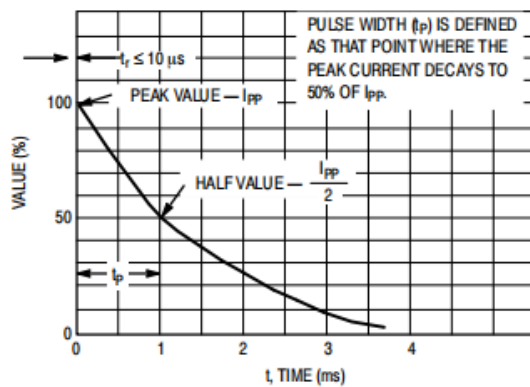
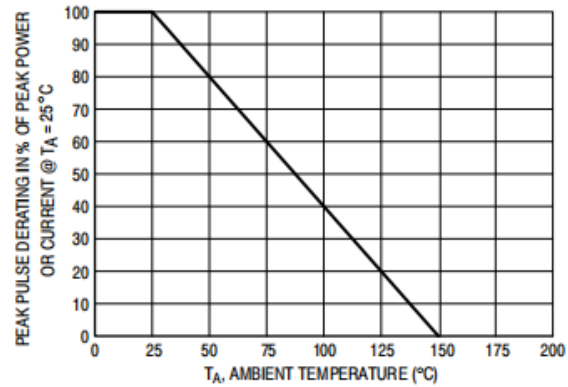

Figure 5. Pulse Waveform
Figure 6. Pulse Derating Curve
- ☐ Peak Power – 24 or 40 Watts @ 1.0 ms (Unidirectional), per Figure 5 Waveform
1. Nonrepetitive current pulse per Figure 5 and derate above $T_A = 25^\circ\text{C}$ per Figure 6.
5. Surge current waveform per Figure 5 and derate per Figure 6
Figure is the recommended solution for transient EMI/ESD protection. This circuit is shown in the Society of Automotive Engineers February, 2000 J2411 “Single Wire CAN Network for Vehicle Applications” specification (Figure 6, page 11). Note: the dual common anode zener configuration shown above is electrically equivalent to a dual common cathode zener configuration.